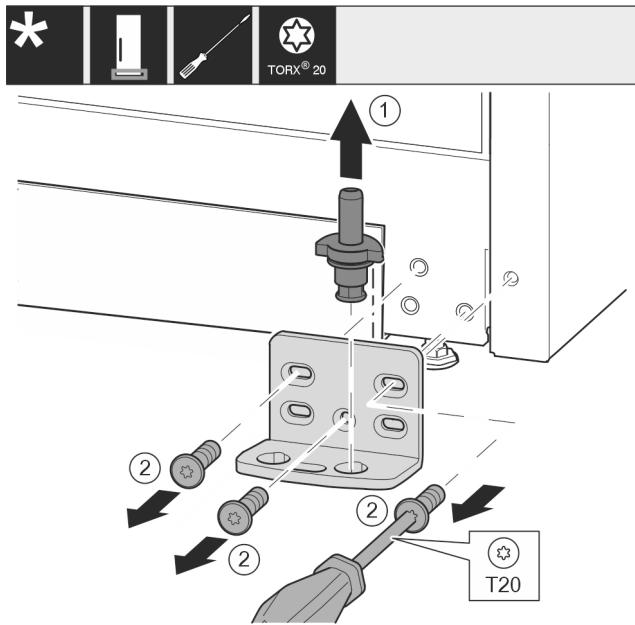

Fig. 14
- Lift the bearing pin completely upward and remove it. *Fig. 14 (1)*
- Remove the screws with the T20 screwdriver and take off the bearing bracket. *Fig. 14 (2)*